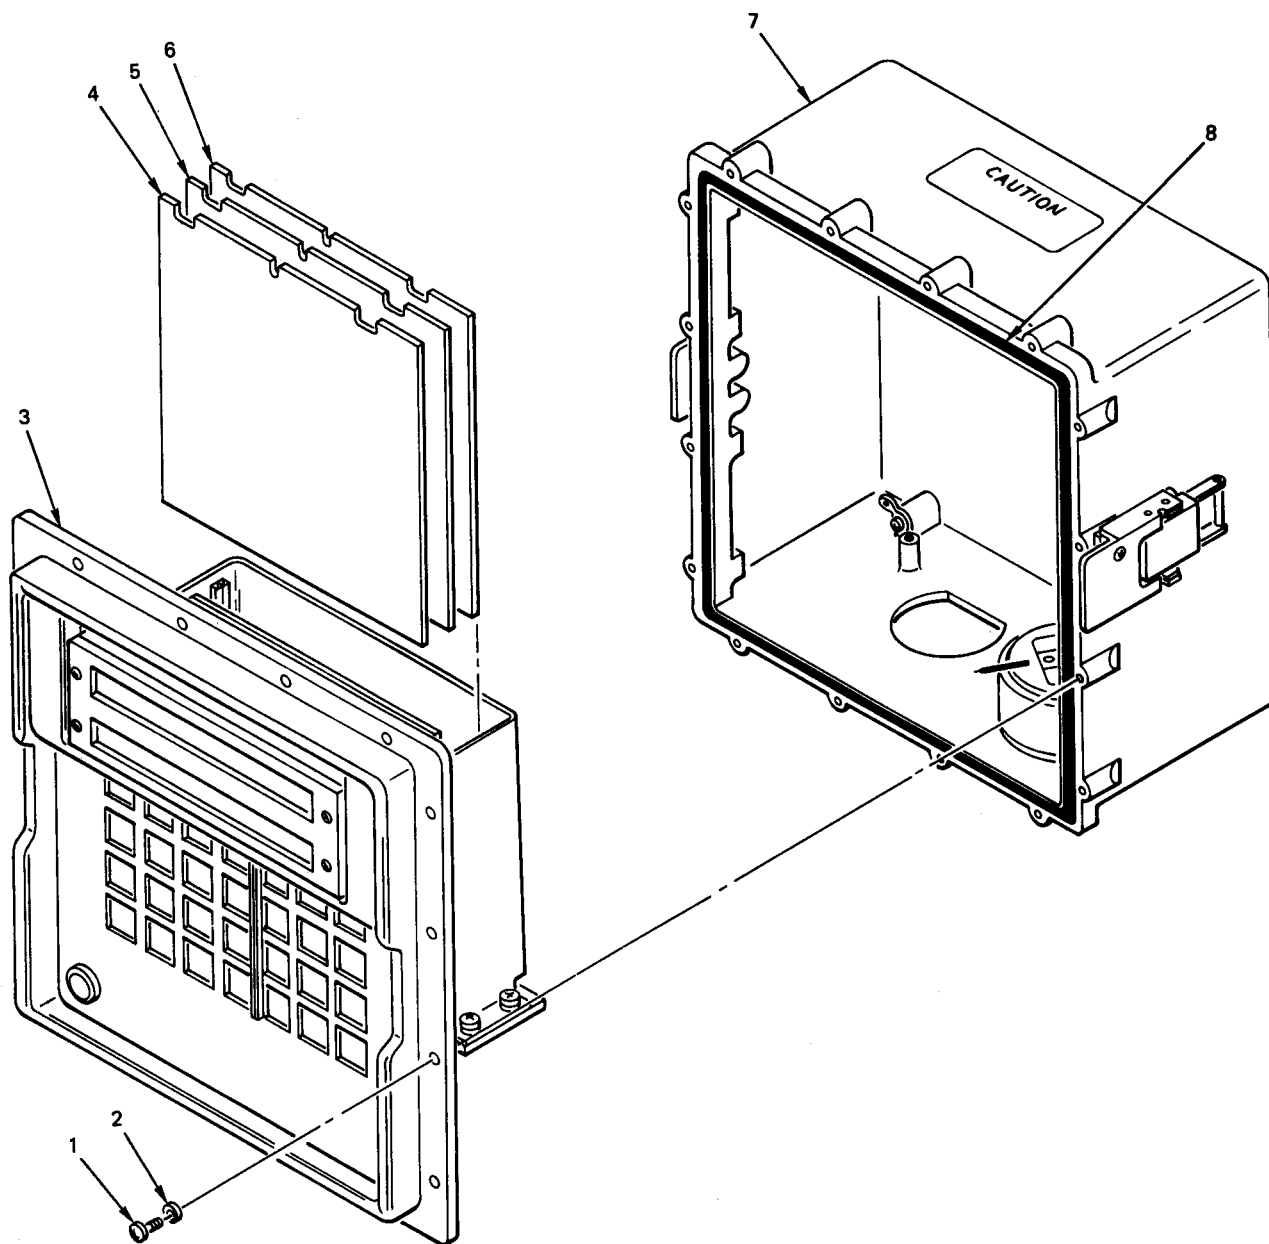

Figure 3-9. CDU Exploded View
3-17. CDU Maintenance. CDU repair consists of removal and replacement of circuit card assemblies. Figure 3-9 is an exploded view of the CDU.
Remove and replace display logic circuit card assembly A1 or A2 (4 or 5, figure 3-9) or keyboard and control circuit card assembly A3 (6) as follows:
(1) Removal.
- (a) Remove 16 screws (1) and washers (2) securing control and display panel (3) to control and display unit cover (7). Separate control and display unit cover (7) and control and display panel (3) to provide access to circuit card assemblies.
- (b) Using card extractor, remove display logic circuit card assembly A1 (4), A2 (5), or keyboard and control circuit card assembly A3 (6) as applicable.
(2) Replacement.
- (d) Inspect gasket (8). Replace if cracked, torn, loose, or excessively compressed.
- (e) Place control and display panel (3) against control and display unit cover (7). Secure control and display panel (3) to control and display unit cover with 16 screws (1) and washers (2) and torque to 5 inch-pounds using procedures described in paragraph 3-11.
Legend for Figure 3-9